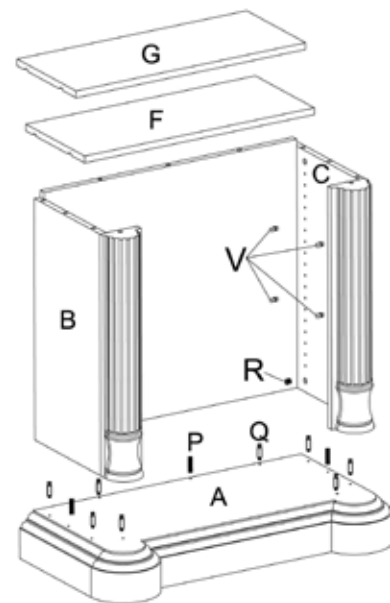

Figure 3
2. Lay BASE (A) down on a soft surface to avoid damaging the surface and finish. Place 3 WOOD DOWELS (Q) and screw 8 CAM DOWELS (P) into the BASE (A) as shown in Figure 3. Insert 8 CAM LOCKS (R) into the mating holes in the part already assembled in Step 1 with triangle arrow pointing towards the hole in the edge. Mate the pre-assembled part with the WOOD DOWELS (Q) and CAM DOWELS (P) in the BASE (A) and twist CAM LOCKS (R) clockwise with a screwdriver. Insert 8 SHELF DOWELS (V) into LEFT/RIGHT BOARD (B&C) tightly. Carefully put SHELVES (G&F) against the SHELF DOWELS (V). Remove handle wrapper